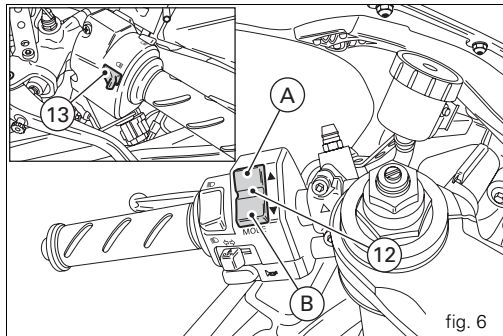

fig. 6
12) 2-position switch A and B (fig. 6).
13) High beam headlight flasher switch (fig. 6).